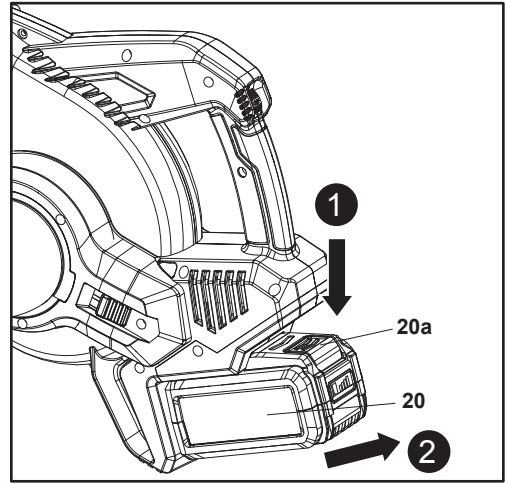

Fig. 7
3. Press the release button (20a) and remove the battery pack (20) from the battery docking port (11) (Fig. 7).